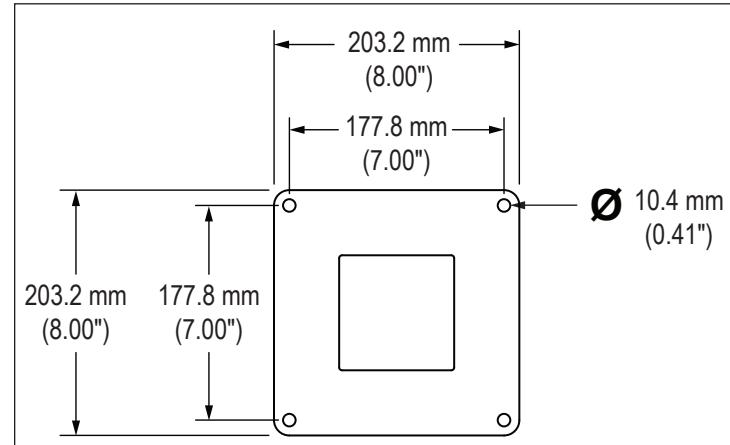

FIGURE 3 – PEDESTAL BASE PLATE
1. Prepare the pedestal base mounting surface for the pedestal installation. Refer to Figure 3 for the mounting pattern used on the pedestal base plate.